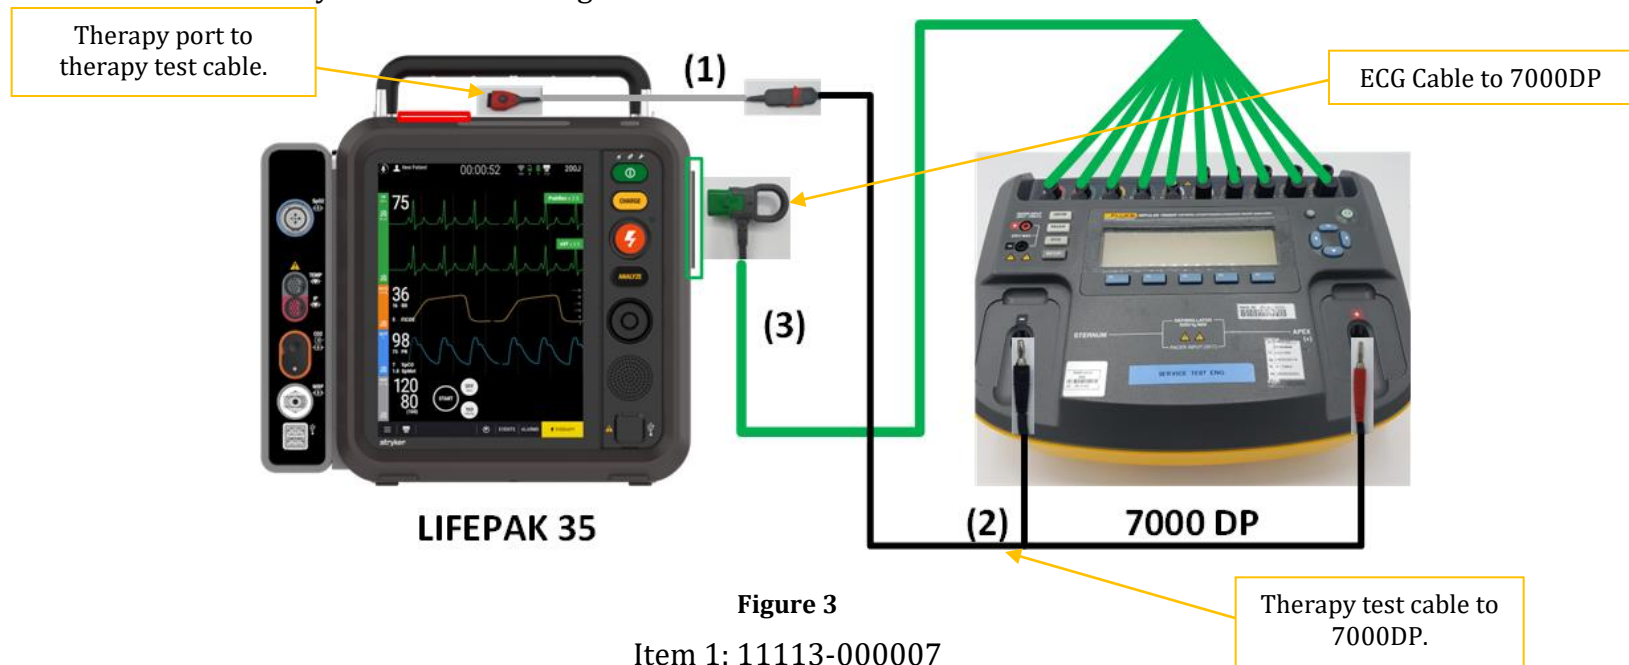

Figure 3
- e. Connect 3/5/12 or 15 Lead ECG to defibrillator analyzer matching the lead to the corresponding location on the analyzer as shown in Figure 3.